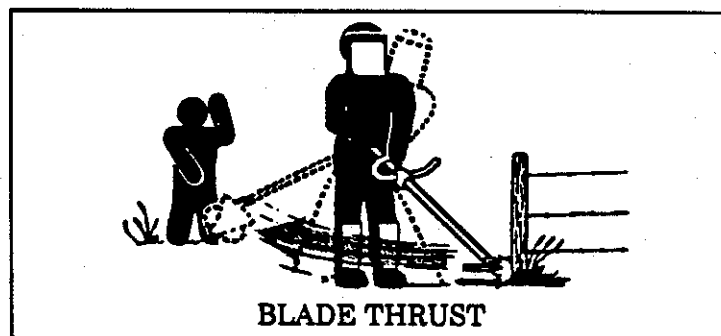

Figure 14
1. **WHAT CAUSES BLADE THRUST?** *Blade Thrust* can occur when the spinning blade contacts an object that it cannot cut. This contact causes the blade to stop for an instant and then suddenly move or "thrust" away from the object that was hit. The "thrusting" reaction can be violent enough to cause the operator to be propelled in any direction and lose control of the tool. The uncontrolled tool can cause serious injury if the blade contacts the operator or others. Figure 14.